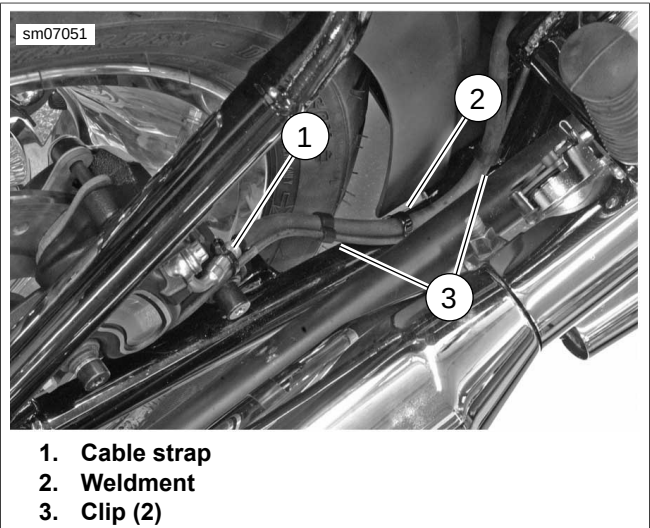

Figure C-20. WSS cable Routing
2. See Figure C-20. Remove clips (3) and cut cable strap (1).
3. Remove brake line from weldment (2).
4. See Figure C-20. Route brake line into weldment over pivot shaft and down rear fork frame. Attach brake line to weldment (2).
7. See Figure C-20. Install clips (3) and **new** cable strap (1).